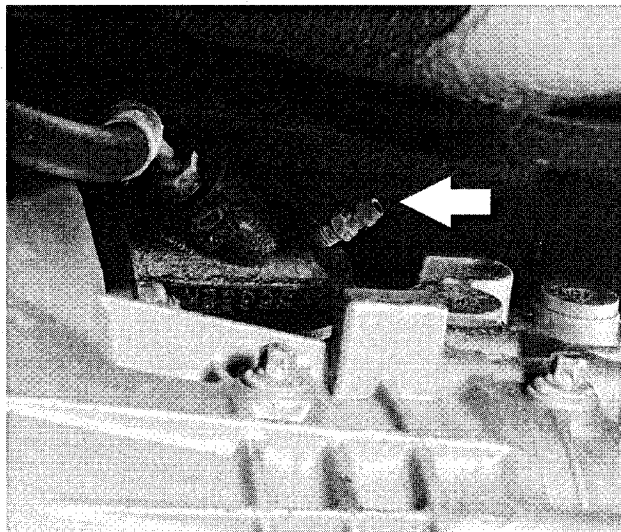

Fig. 2. Clutch slave cylinder bleeder valve on left side of transmission (arrow).
3. Connect a length of hose from clutch slave cylinder bleeder valve to a container. See Fig. 2.